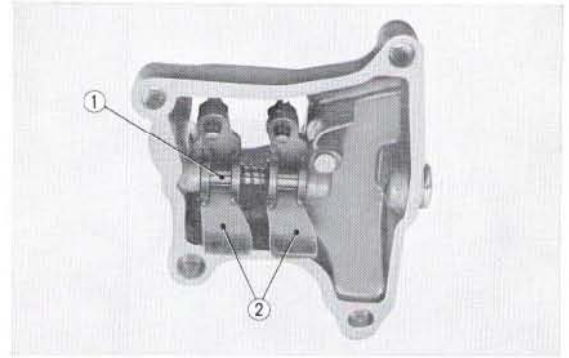

Fig. 2.6 ① Valve rocker arm shaft
2. Extract the rocker arm shaft and remove the rocker arms. (Fig. 2.6)